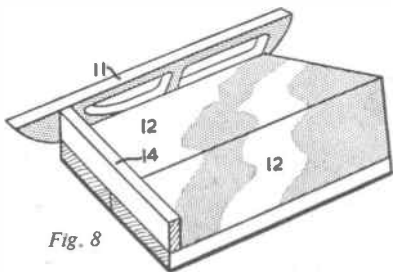

Fig. 8
Lay pieces (12) forming the cabin, on a flat surface, and cement together (Fig. 8). Add the sides (11) and cross strut (14). When dry, turn the cabin assembly